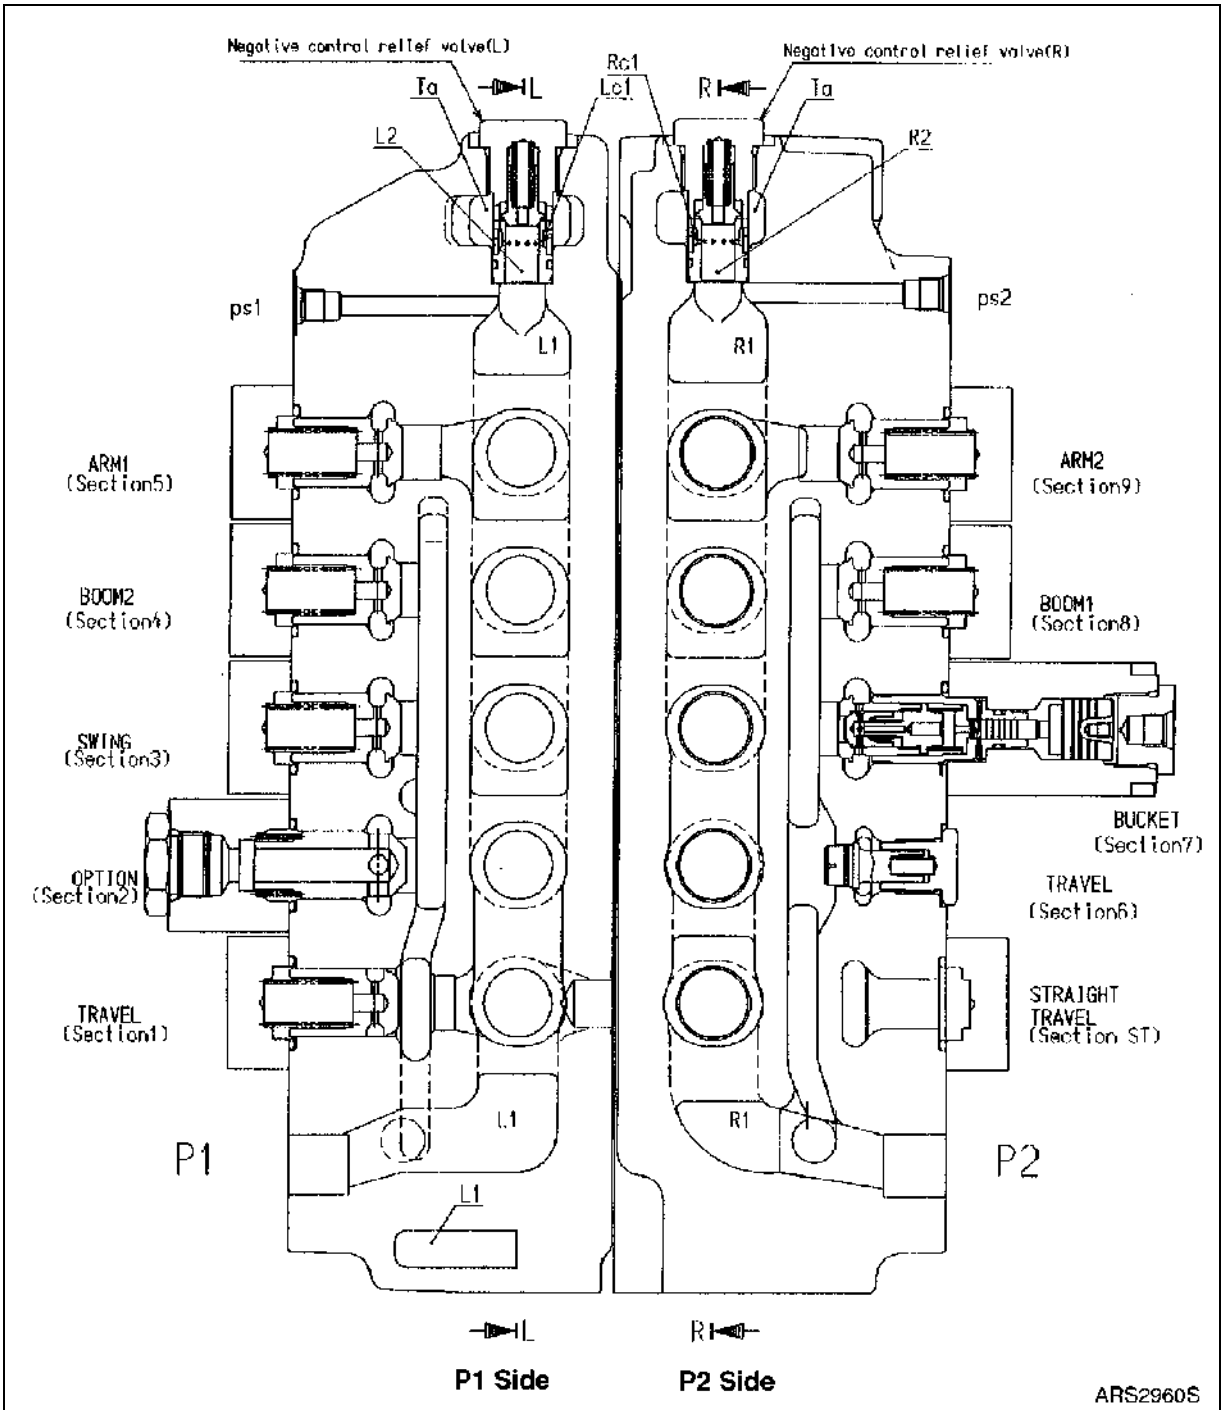
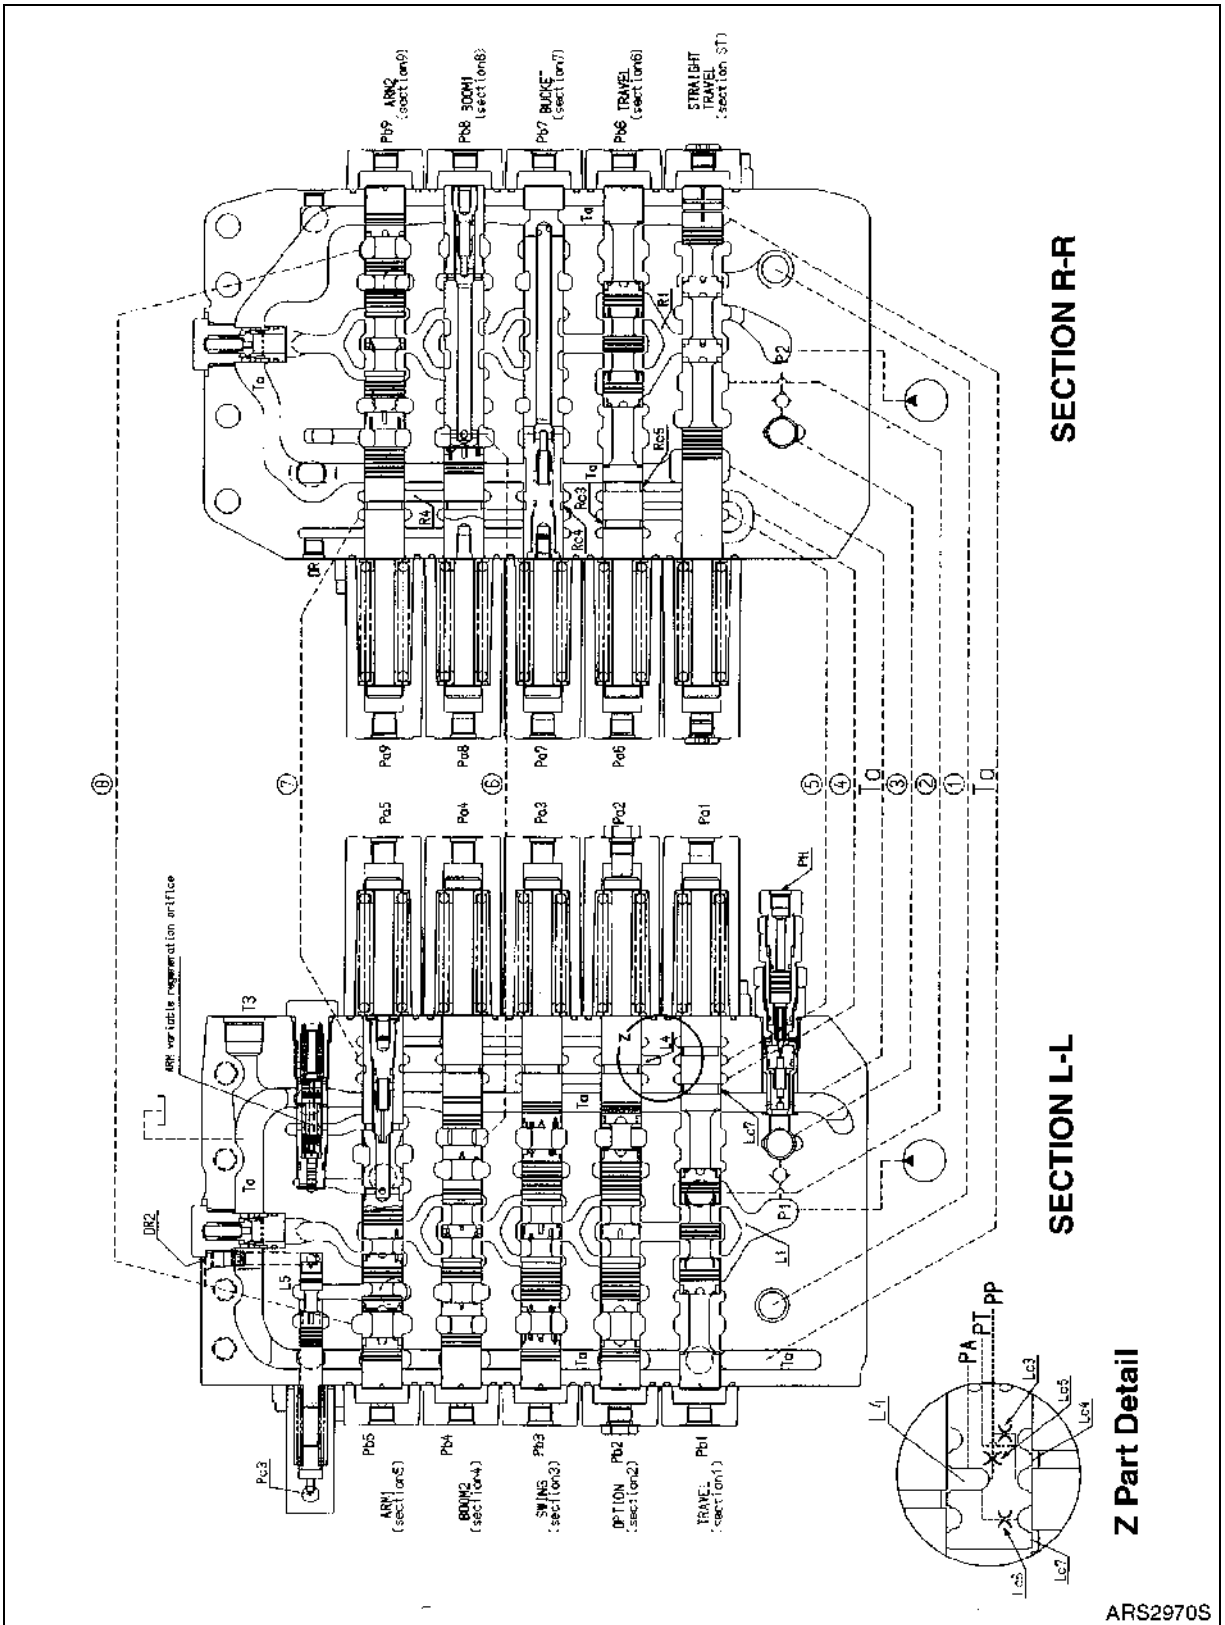
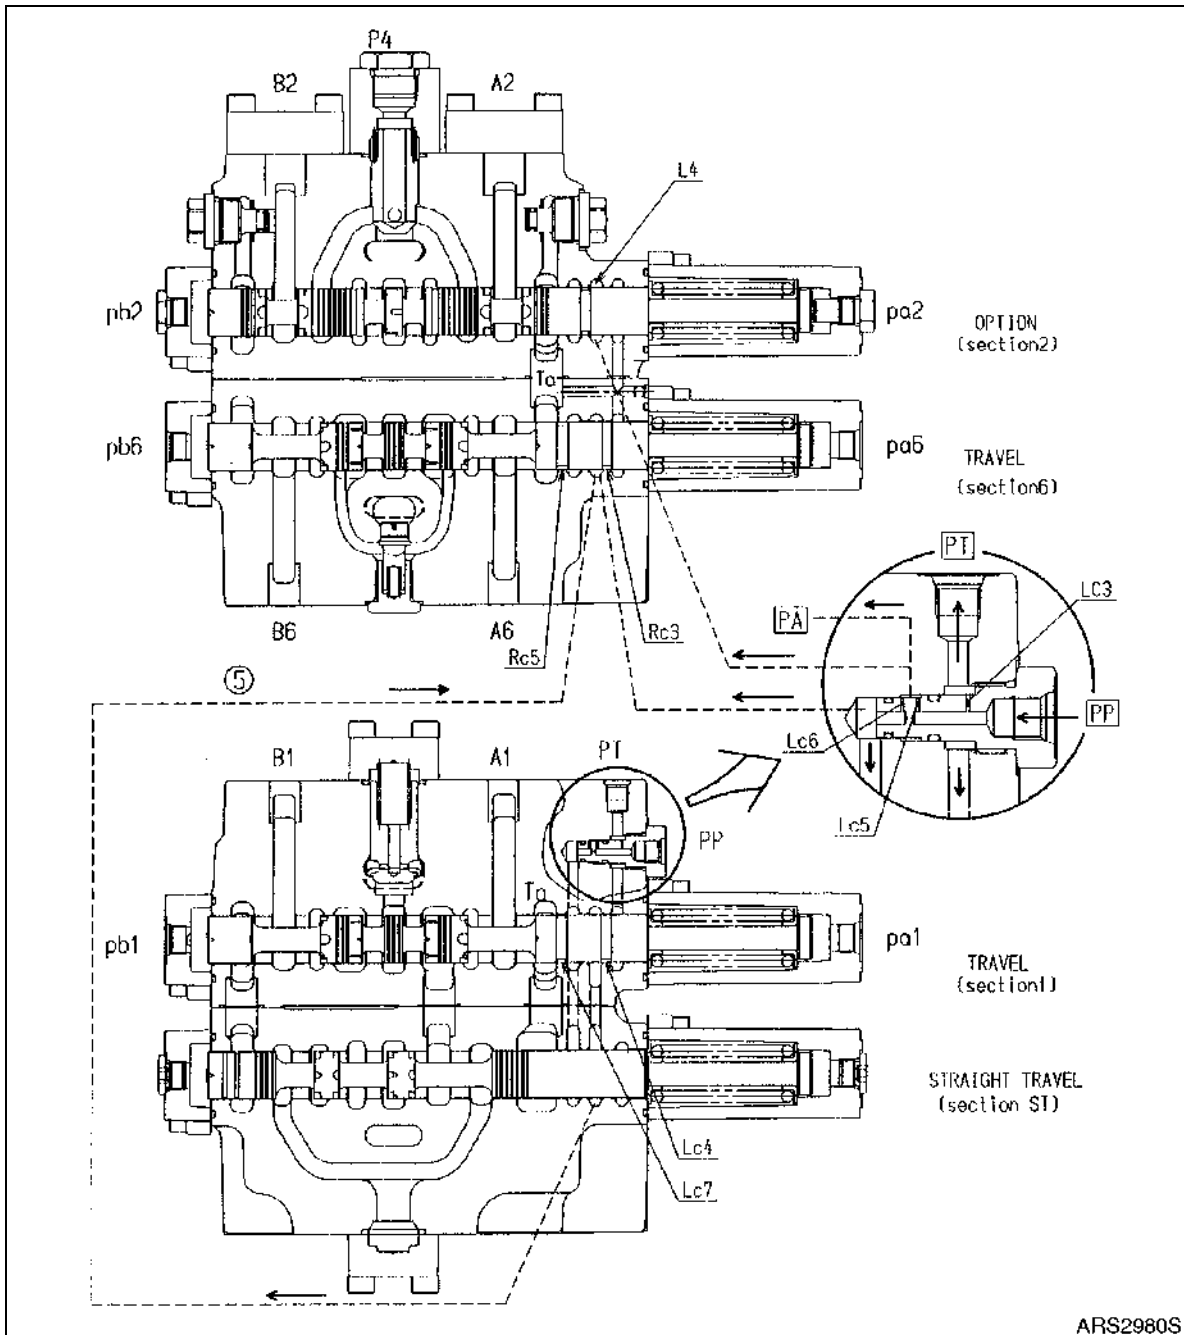
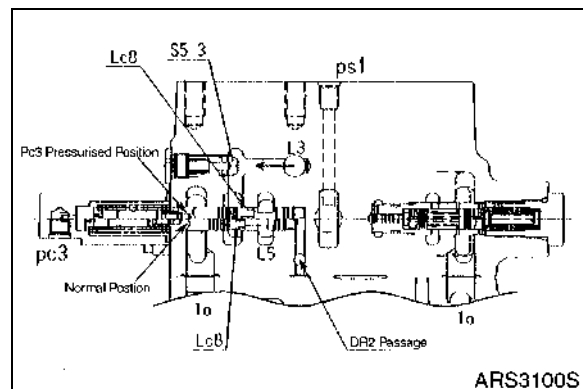

Figure 1
Figure 2
Figure 3
Figure 14
Oil supplied to port (P1, Figure 1 and Figure 2) flows through neutral passage (L1) to low pressure relief valve orifice (Lc1), to tank passage (Ta) and returns to ports (T1, T2, and T3).
1. Oil supplied to port (PP, Figure 2 and Figure 3) flows through orifice (Lc3) to port (PT) and simultaneously flows through land (Lc4), passage (5), and land (Rc3) into tank passage (Ta).
2. The same oil supplied to port (PP), then flows through orifice (Lc5) into port (PA), and it also flows through passages (L4)(7) and (R4) to bucket spool land (Rc4) and then flows into drain passage (DR).
3. The oil passing through orifice (Lc6) flows through land (Lc7) to tank passage (Ta) or flows through passage (4) to travel spool land (Rc5) and then flows into tank passage (Ta).
The orifice, that is installed in parallel passage for arm 1, controls arm speed when operating in a combined operation. Oil supplied from parallel passage (L3, Figure 14) of arm 1 (section 5) pushes open poppet (S5-3). It then flows through orifice (Lc8) of variable orifice spool, and then is connected to passage (L5, Figure 3). From here, flow of orifice (Lc8) can be varied by increasing or decreasing pressure against pilot poppet (Pc3).